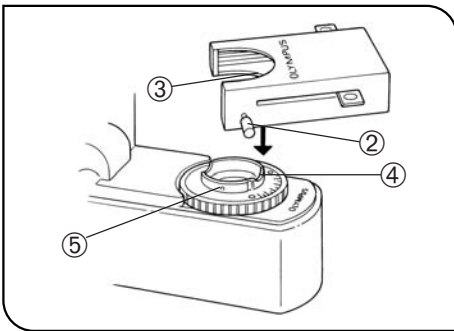
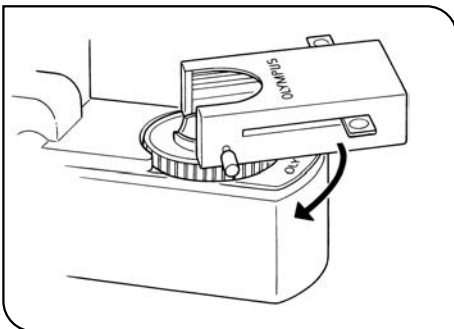

Fig. 8
Fig. 9
1. Fully loosen the filter cassette clamping screw ②. (Fig. 8)
2. Align the key ③ on the bottom surface of the filter cassette with the positioning slot ④ on the filter mount, then snap the filter cassette into place from above.
3. Rotate the filter cassette to align its sides with the base. (Fig. 9)
4. Align the clamping screw ② with the positioning hole ⑤ on the filter mount, then tighten the screw to fasten the filter cassette.